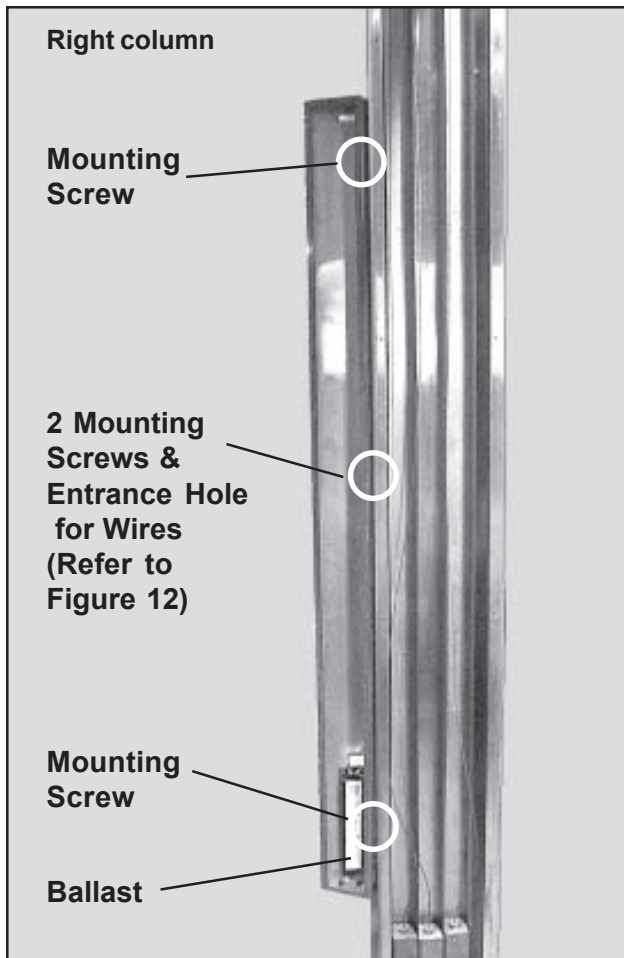

Figure 11. Light Fixture Mounted on Column
Note: You will mount the fixture to the rear of one of the columns so that the light panel is angled inward to the cubicle, and the ballast is on the bottom (Figure 11).
3. Pass the three wires from the column through the hole in the back of the fixture and mount the fixture to the column with the four mounting screws (Figure 11). The four mounting screws fit into predrilled and threaded holes in the column - no nuts are required.